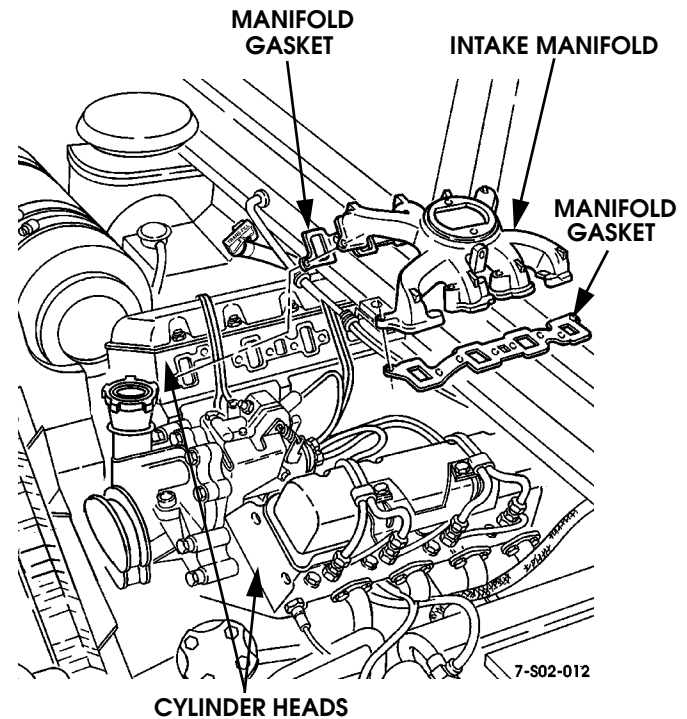

Figure 2-38: Intake Manifold and Gaskets
2. Position new intake manifold gasket on each cylinder head (Figure 2-38). A gasket dressing, such as Permatex High Tack, can be used to hold gaskets in place during manifold installation.